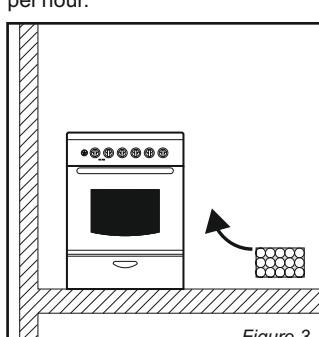

Figure 3
- Combustion gases from cooking appliances must be released directly out of doors or via a hood connected to a chimney or flue (Figure 3)